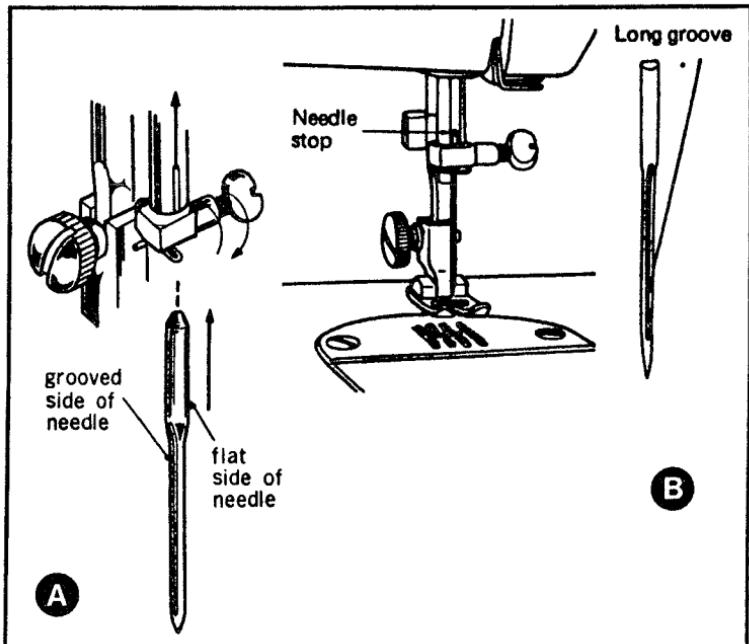

Fig. 2-7.(A) shows the method of inserting the needle in the New Home Model 545 and (B) shows the method of inserting the needle in the Brother Model B801.
- Install the needle. Note that the shank of the needle has one flat side, which will *generally* allow it to be installed only one way. However, if it can be installed more than one way, assume that the flat goes to the back or right side and that breaking of the thread indicates it is wrongly installed (Fig. 2-7).